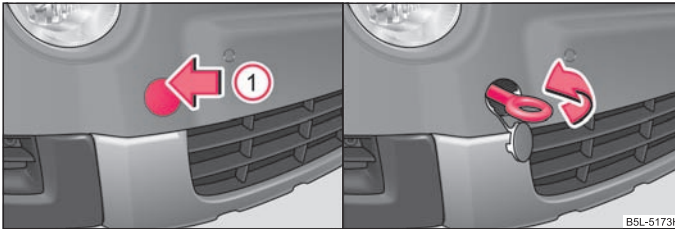

Fig. 187 Front bumper: Removing the cover/installing the towing eye
- Press on the upper half of the cover in direction of arrow ① ⇒ fig. 187.
- Screw in the towing eye by hand to the left up to the stop ⇒ fig. 187 - right and tighten it as much as possible. For tightening, we recommend that you use for example the wheel wrench, the lashing eye of another vehicle or a similar object which you can push through the eye.